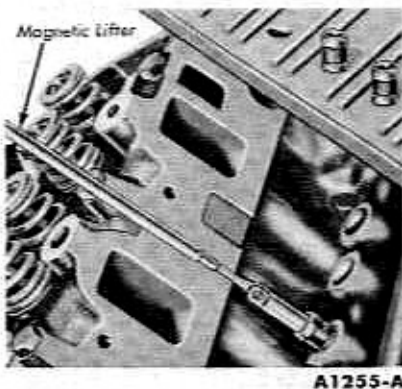

FIG. 17—Hydraulic Valve Lifter Removal
21. If the hydraulic valve lifters can not be removed with the fingers, remove them with the tool shown in Fig. 17.